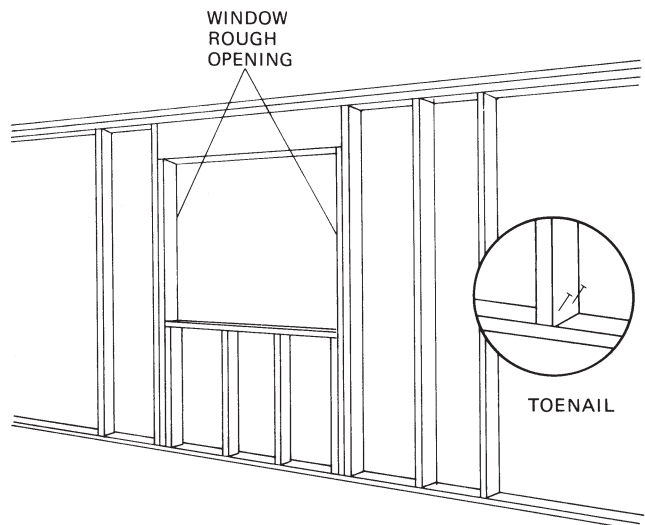

Fig. 9-37 Placing the rough sill and cripples between the jack studs. Note the inset showing the toenailing. (Andersen.)
6. Fit the rough sill and cripples between the jack studs (Fig. 9-37). Toenail the cripples to the bottom plate and the rough sill to the jack studs at the sides. See the round insert in Fig. 9-37.